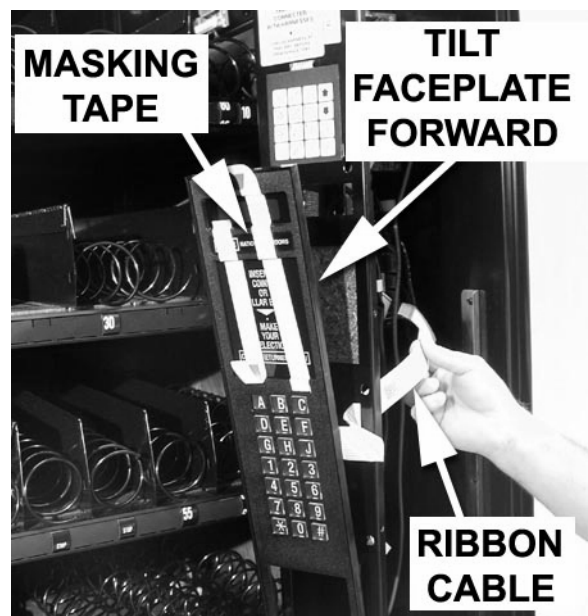

Figure 15
4. Before you remove the faceplate from the front of the monetary door, put one or two pieces of masking tape across the display window and the instruction insert to keep them from falling out (figure 15).
5. Slowly remove the faceplate from the top as shown (figure 15).
6. Work the keypad ribbon cable through its slot to completely remove the assembly (figure 15).
4. Feed the keypad ribbon cable through the slot in the monetary door (figure 15).
5. Tilt the bezel into place from the bottom as shown (figure 15).